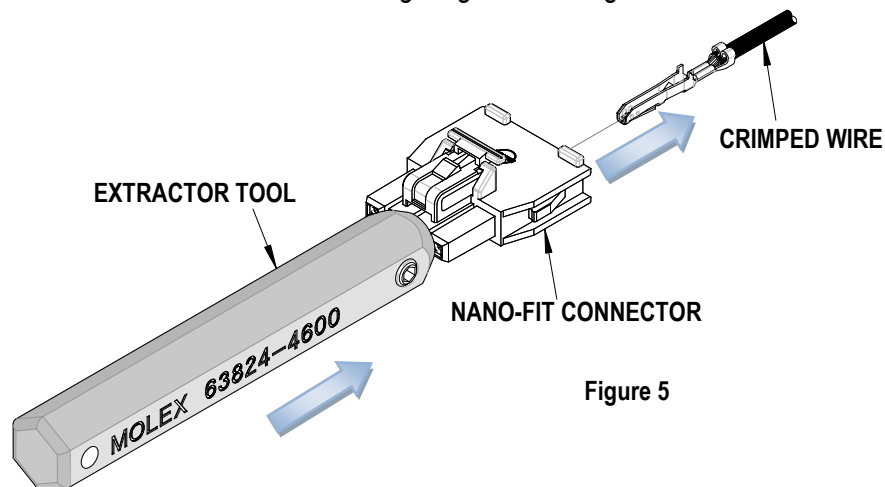

Figure 5
5. Holding the extractor tool against the housing, gently pull the crimped wire out of the connector. See Figure 5.